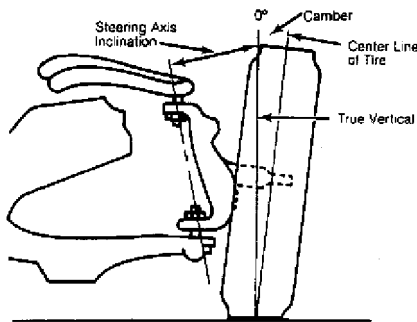

Fig. 6: Checking Steering Axis Inclination
1) Steering axis inclination is a check for bent or damaged parts, and not a service adjustment. Vehicle must be level and camber should be properly adjusted. See Fig. 6.